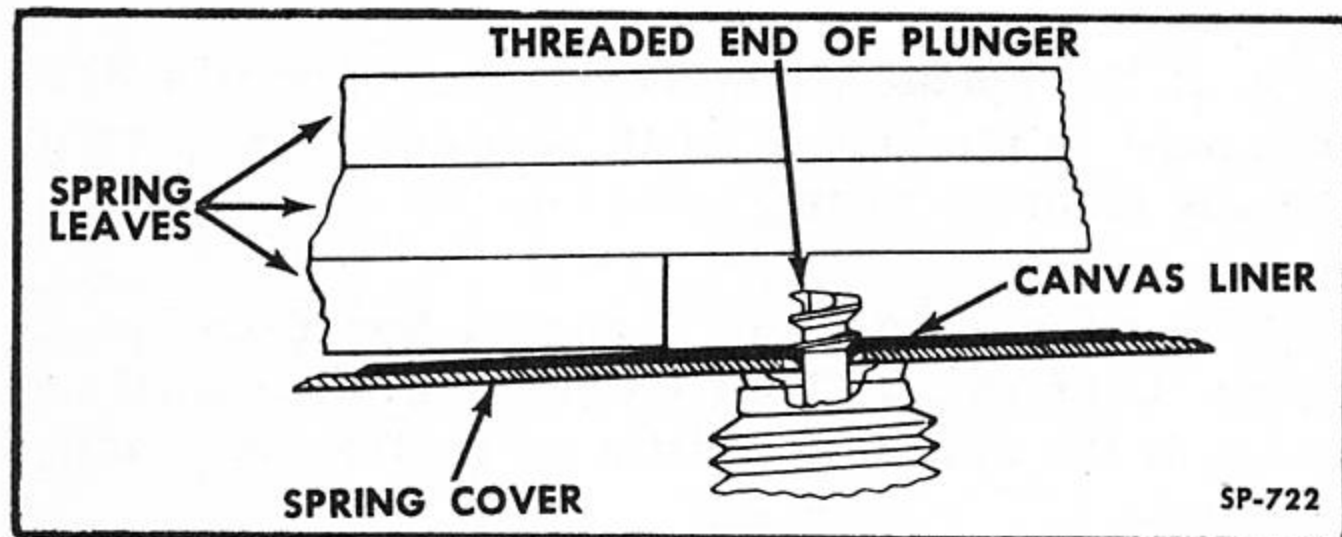

Fig. 313—Plunger Threaded through Spring Cover
5. Screw the plunger several times to the right to thread the end through the canvas (Fig. 313).